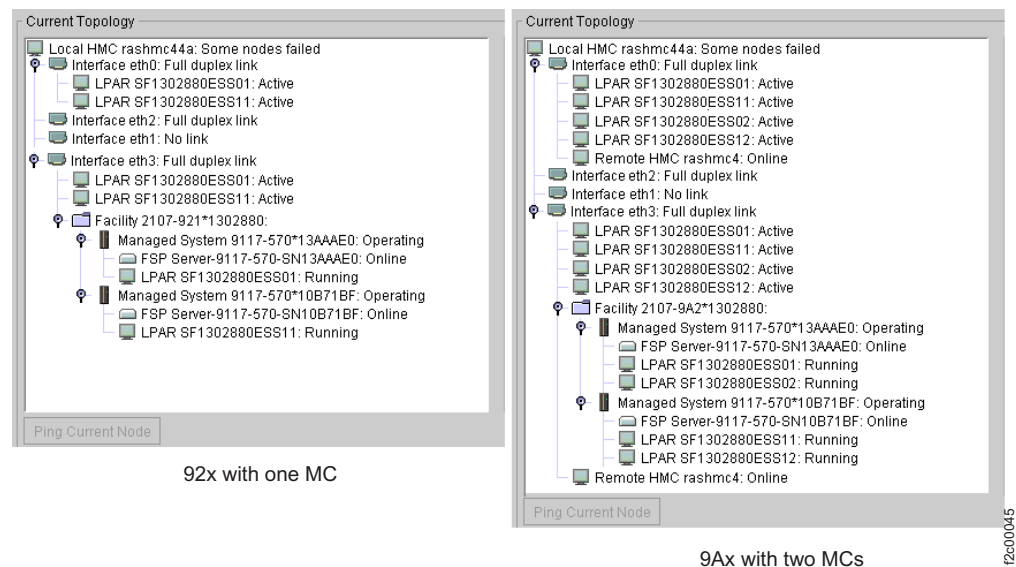
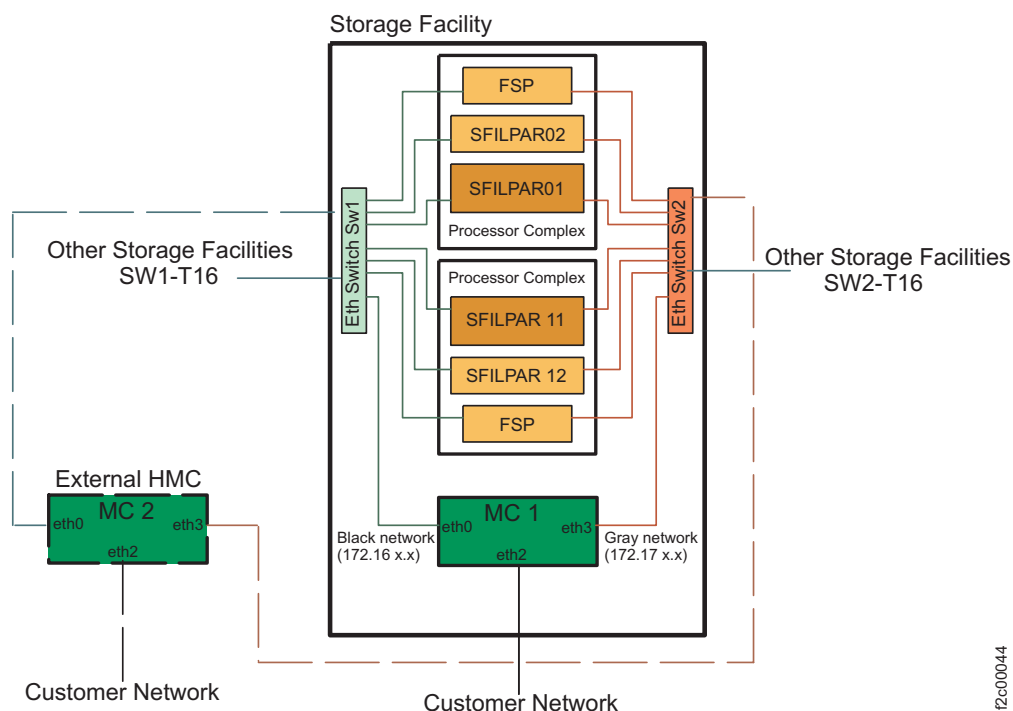

Figure 82. Two examples of the current topology screen
Figure 83. Diagram of the network topology
- h. Determine if all expected nodes are present. Refer to Figure 82, Figure 83 on page 104, and the Notes list.
- Yes, go to MAP7000 Entry point for DS8000 private network problems in the DS8000 Service Information Center. To display the MAP, open the service Information Center on the management console (MC), then open the **Isolation MAPs and symbolic FRU procedures** section to locate the MAP.
The left side of Figure 82 shows an example of a 921 or 93x with a single management console. The right side shows an example of a 9A2 or 9B2 with two management consoles.